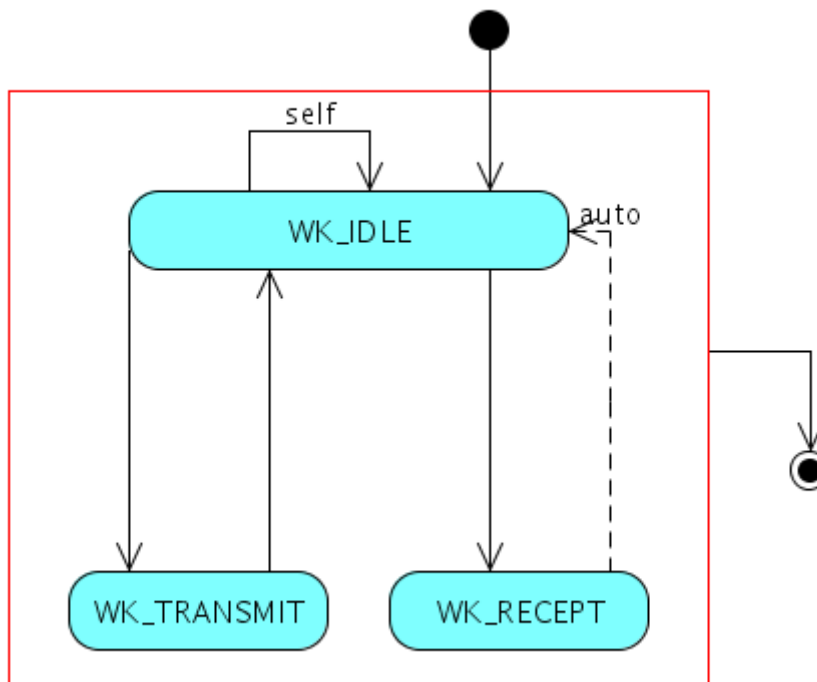

Figure 7.7: State diagram in WAKEUP mode of the RLIN3 model
- (4) WAKEUP: When the RLIN3 model moves to this state, the transmission/reception wakeup signal to TX_DATA/RX_DATA ports is progressed. The figure 7.7 describes the state machine of this state.